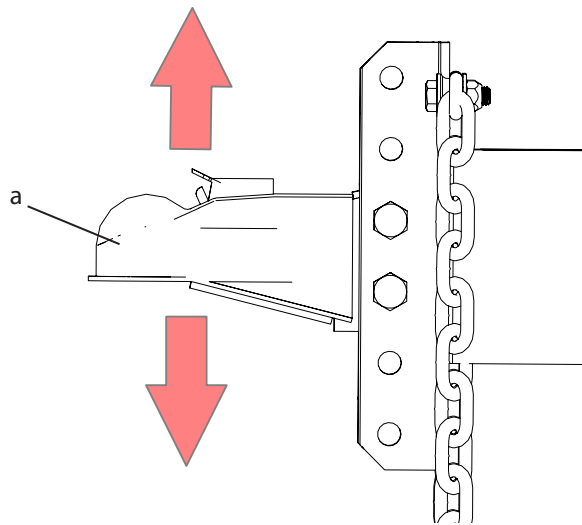

Figure 1: Hitch Adjustment
- The front hitch (a) can be unbolted and moved to a different height settings to better fit the tow vehicle (Figure 1).